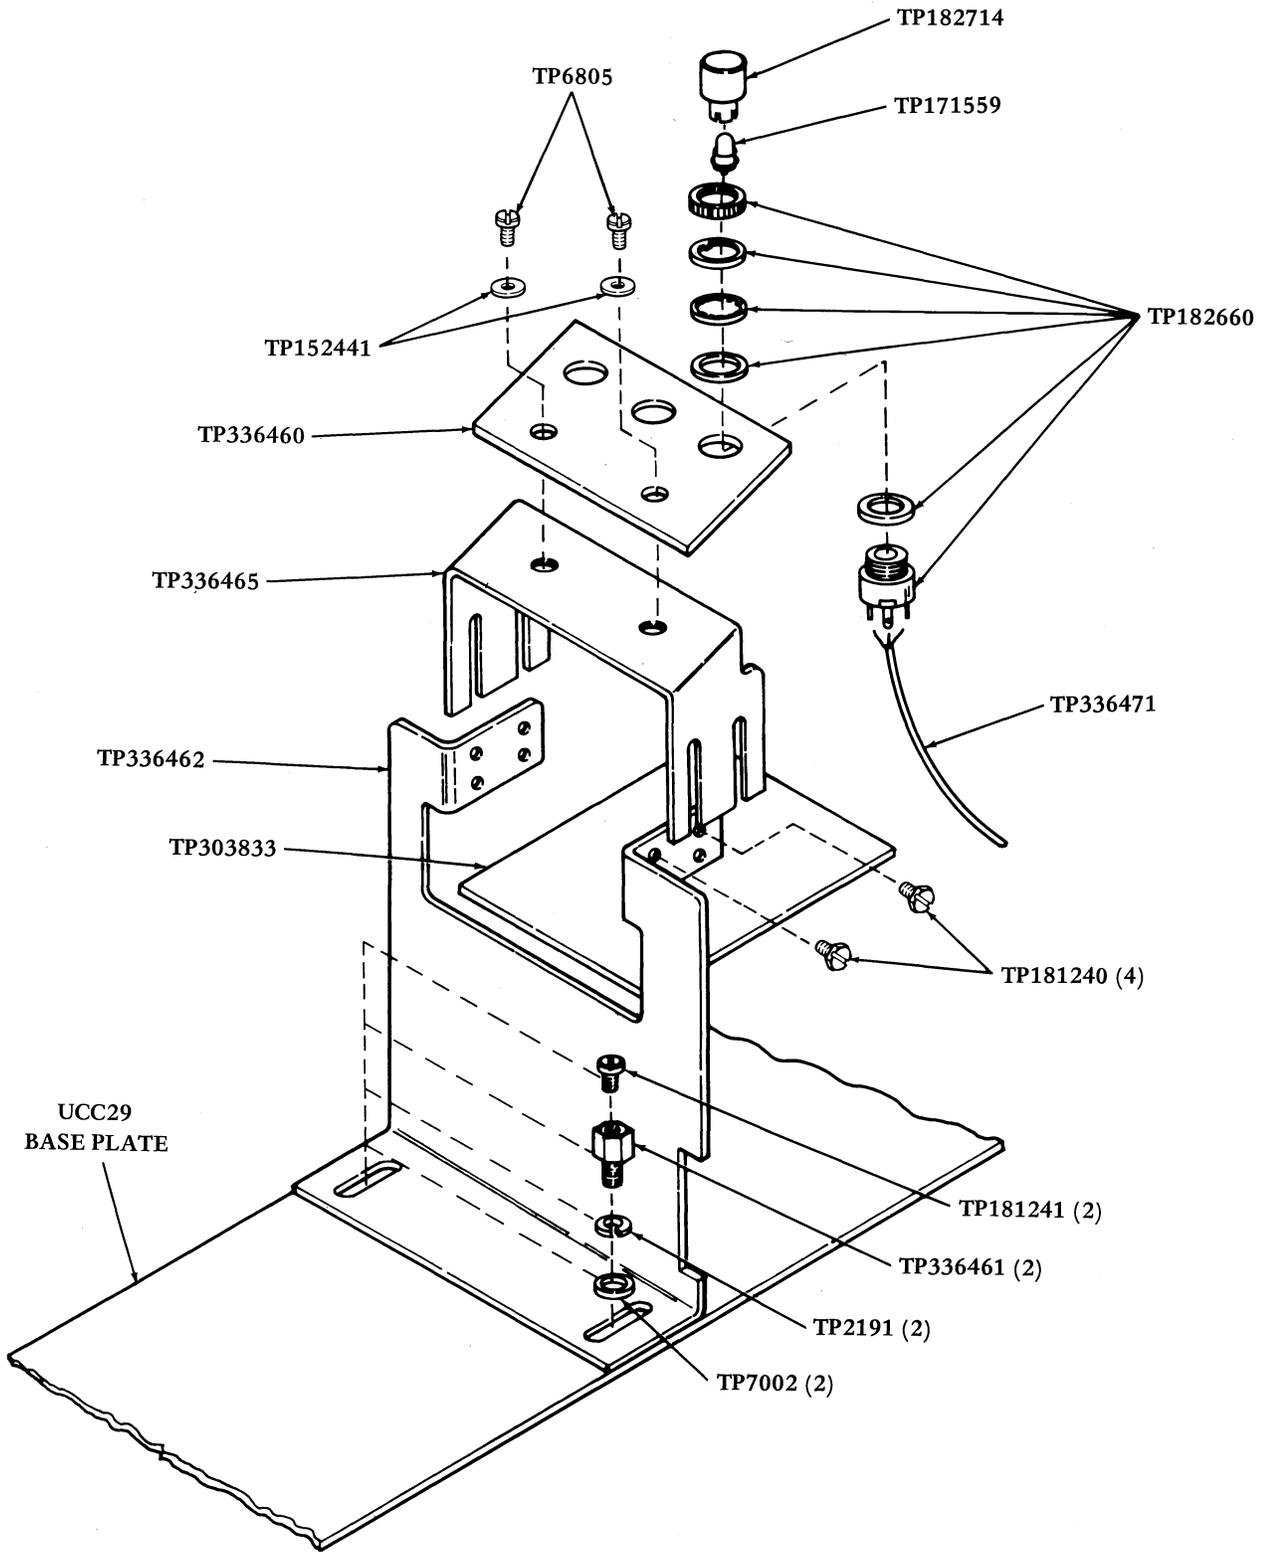

Figure 4 - Break Detector and Indicator
5.02 The TP336462 bracket mounts on the UCC29 call control unit base plate (refer to Figure 4). The TP303833 break detector card is part of the TP186630 modification kit but mounts in the card connector (CN on 8162WD) on the UCC29 call control unit.